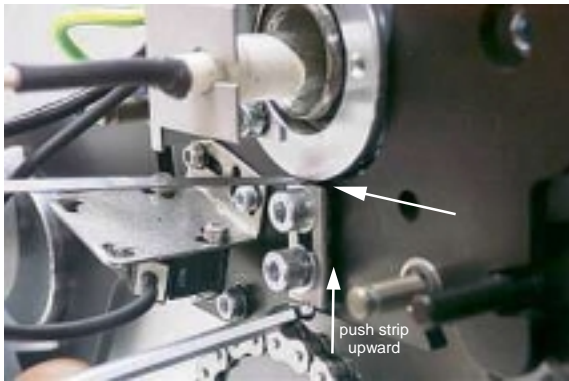
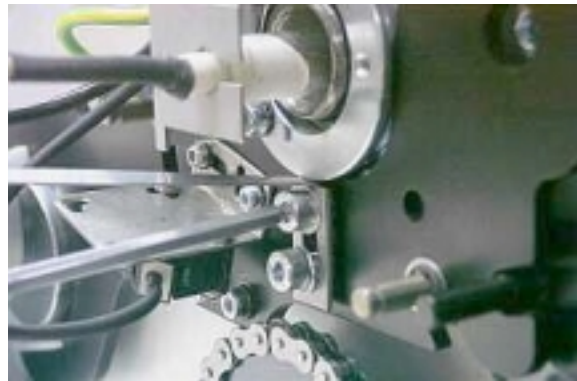

fig. 30
fig. 31
3. Place a 0.6mm (0.0236 inch) gauge between the bearing housing and the adjustment strip. See figure 30: the white arrow points to the 0.6mm wide opening, caused by the gauge.
4. Push the adjustment strip upward against the gauge (figure 30) and fasten the M5 bolts while leaving the gauge in place. See figure 31.